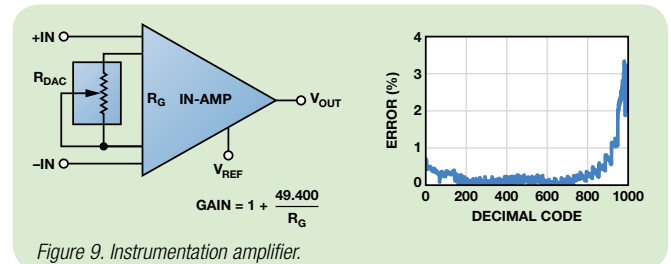

Figure 9. Instrumentation amplifier.
- ADI offers digiPOTs, for example, the AD5272 and AD5292, with industry-leading maximum  $\pm 1\%$  variable resistor performance. These devices enable designers to digitally program accurate resistor values, simplifying the process of determining the system error budget (see Figure 9).